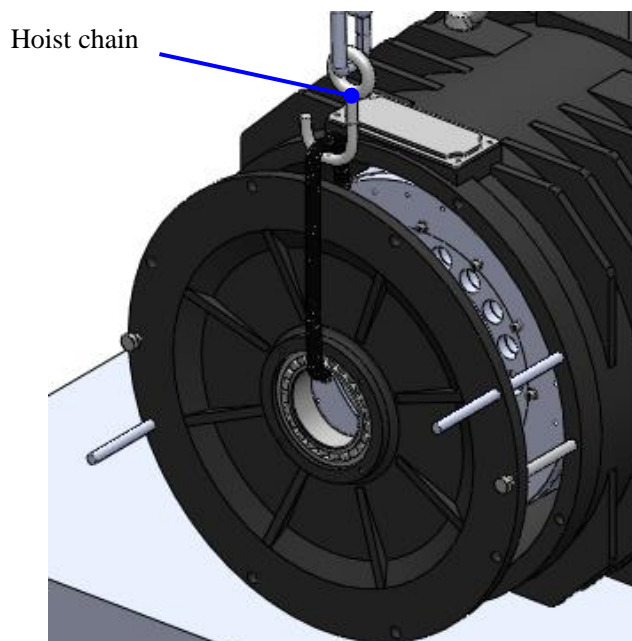

Figure 116: Remove back cover and bearing
8. Use lifting equipment to suspend the back cover, then dismantle the double end studs (M16x300). Then remove the back cover and bearing (23024 CA-2CS2). A bearing puller may be needed to remove the back cover and bearing. See Figure 116.